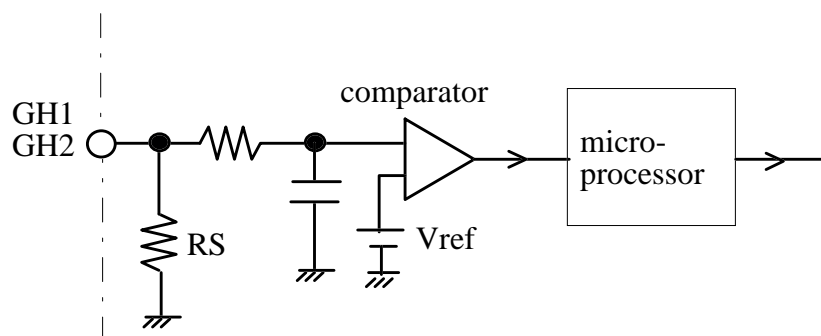

Fig. 5 Example for over current detection
- Over current can be detected as follows. GH1 should be connected to GH2 near IC pins, and a shunt resistance RS should be connected to these terminals. Dealing with the voltage drop of RS by an external over-current detection circuit, the output should be a feedback signal for the inputs of the IC. Fig. 5 shows an example for over-current detection. The voltage drop of RS is put into the comparator and it is compared with the reference voltage Vref. And the microprocessor handles the result, and controls the input for the IC. The detected current IO is calculated by this equation,